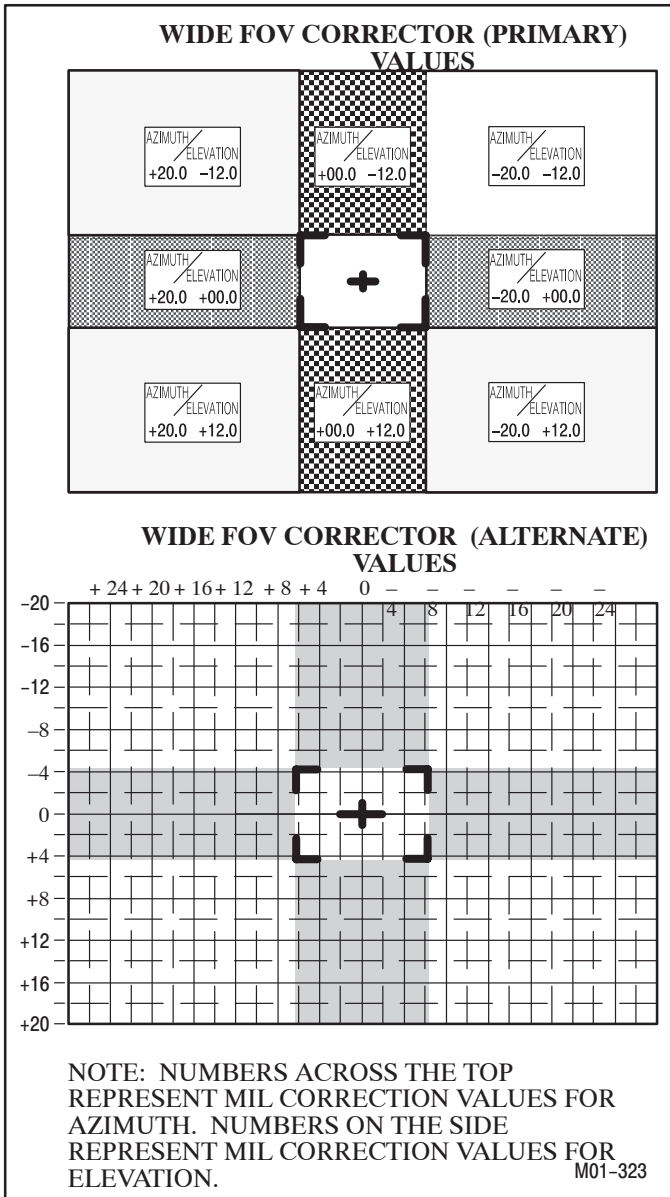

Figure P-1. AWS Harmonization Wide FOV Corrector Guide **-49A / -51**.
10. Determine the appropriate sector from the appropriate field of view Correction Guides (figs P-1 and P-2) for harmonization offset values.
- Enter corrector Delta value(s) from the Corrector Guides (figs P-1 and P-2).